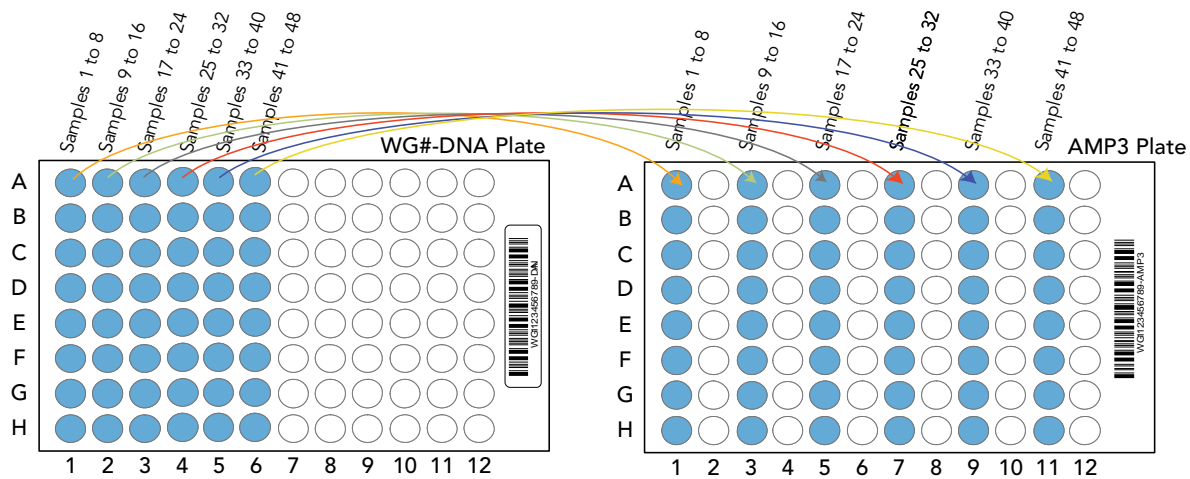

Figure 22 Distributing Sample to AMP3 Plate Wells
5. Dispense 8 μ l 0.1N NaOH into each well that contains DNA (Figure 22).